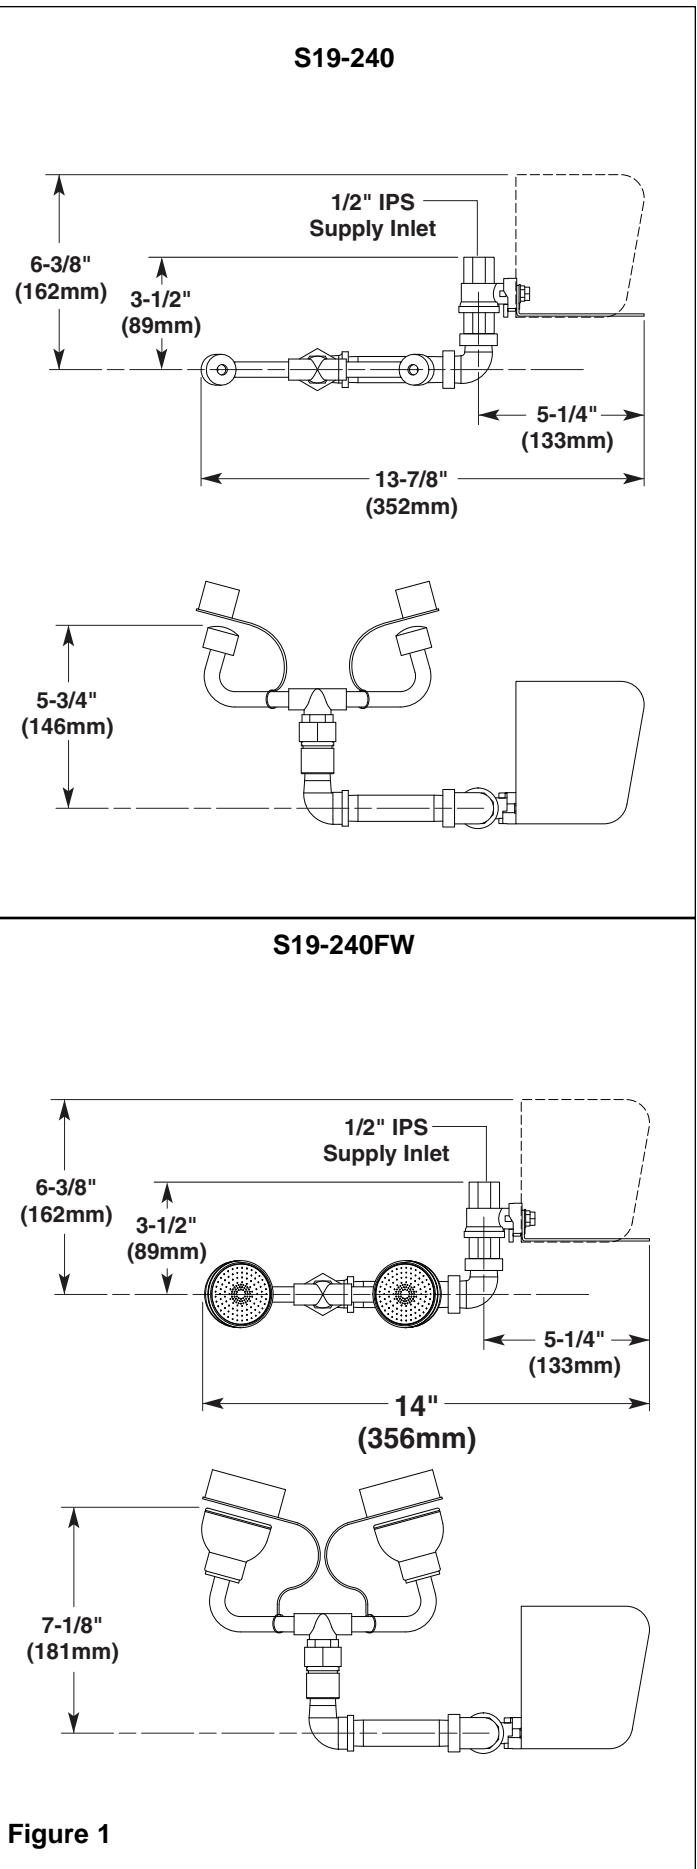

Figure 1
1. Connect water supply piping (supplied by installer) to the 1/2" IPS inlet on the eyewash (see Figure 1).